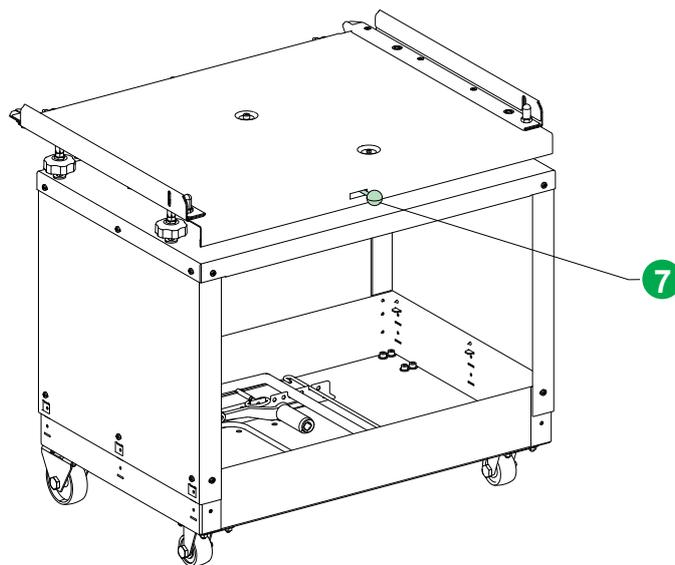

Figure 78
7. Firmly hold the transport trolley and then push the knob (7) of the transport trolley to the left-hand side of the interlock to open, and remove the transport trolley from the cubicle. Refer to Figure 78.